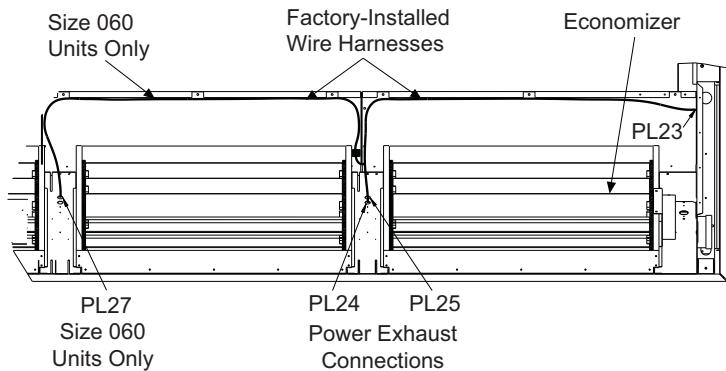

Fig. 11 — Wire Harness Plug Location for 48/50A Only
6. Connect the terminals on the end of the power harness wires to the auxiliary control panel terminal block as shown in Fig. 5-10. The other end of the 20 ft harness will be routed through the return/exhaust section of the unit to the economizer section. **NOTE: The following statement is valid for A-series only.** Remove the factory-installed power exhaust harness and plug(s) below the economizer and replace with accessory harness and power exhaust plugs. See Fig. 11 for harness plug location. Secure the harness in place so as not to interfere with the economizer or power exhaust.
NOTE: The following statement is valid for A-series only. Remove the factory-installed power exhaust harness and plug(s) below the economizer and replace with accessory harness and power exhaust plugs. Refer to Fig. 11 for harness plug location. Secure the harness in place so as not to interfere with the economizer or power exhaust.